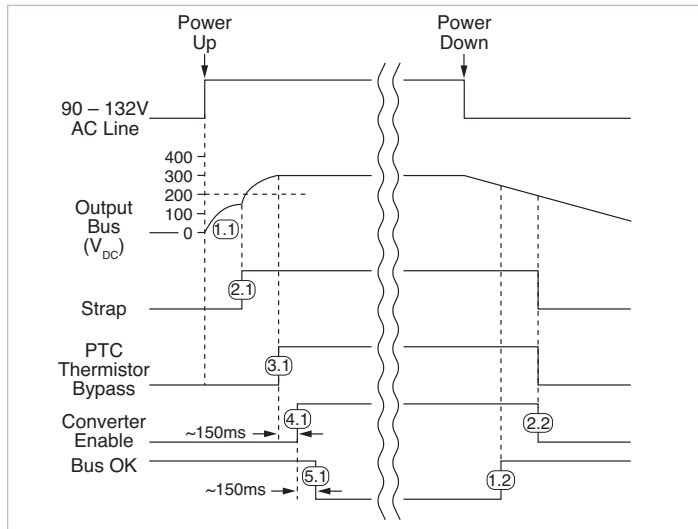

Figure 8 — Timing diagram: power up/down sequence
**Power-Up Sequence (See Figure 8):**
**Power-Down Sequence:** (See Figure 8). When input power is turned off or fails, the following sequence occurs as the bus voltage decays: